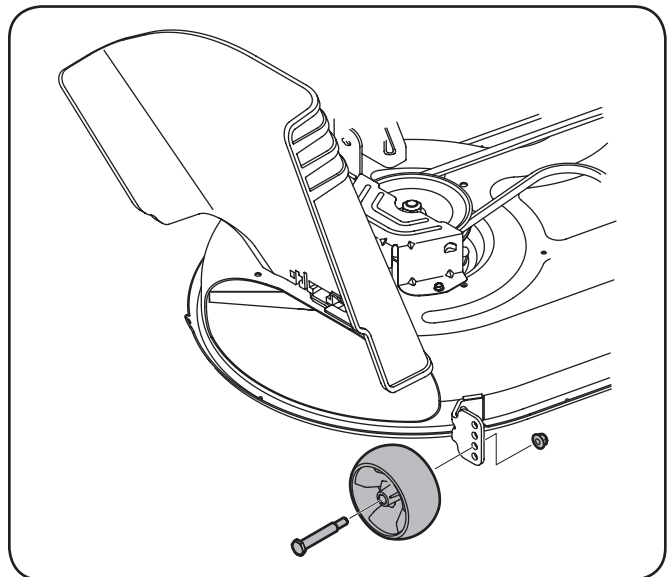

Figure 3-4
- b. Remove the front gauge wheels by removing the lock nuts and shoulder screws which secure them to the deck. See Figure 3-4.